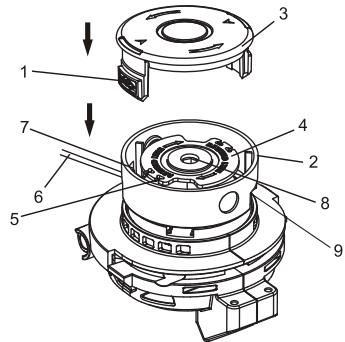

Fig. 13
2. Pull the loose end of the trimmer line out of the retaining slot (5) in the spool (Fig.13).
- b) Carefully wind the trimmer line onto the spool evenly to avoid overlapping wraps that will cause further jamming (Fig.13).